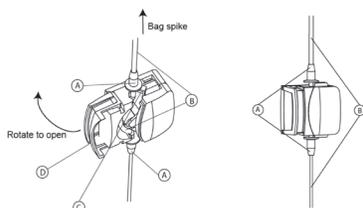

Figure 7. Placing the saline tubing within the OAS Pump
- Open the door, located on the front of the OAS pump, by rotating the door in the direction of the arrow (Figure 7).
- Place the saline tubing over the pump rollers so that the tubing positioners align with the top and bottom V-guides on the pump (Figure 7).